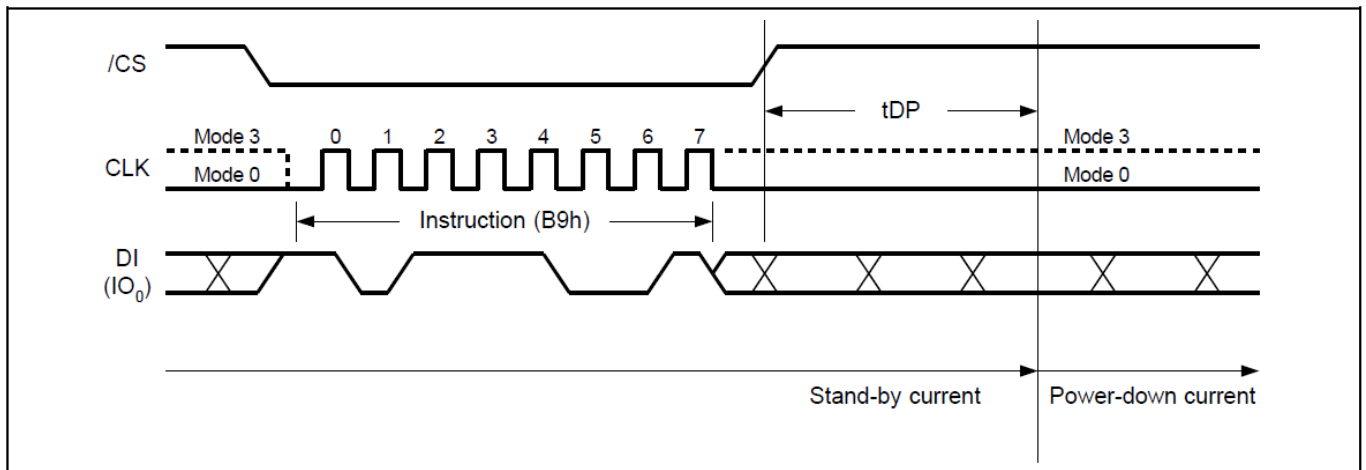

Figure20. Deep Power-Down Sequence Diagram
The Deep Power-Down Mode automatically stops at Power-Down, and the device always in the Standby Mode after Power-Up. The Deep Power-Down command sequence: CS# goes low → sending Deep Power-Down command → CS# goes high. The command sequence is shown in Figure20. CS# must be driven high after the eighth bit of the command code has been latched in; otherwise the Deep Power-Down (DP) command is not executed. As soon as CS# is driven high, it requires a delay of tDP before the supply current is reduced to ICC2 and the Deep Power-Down Mode is entered. Any Deep Power-Down (DP) command, while an Erase, Program or Write cycle is in progress, is rejected without having any effects on the cycle that is in progress.